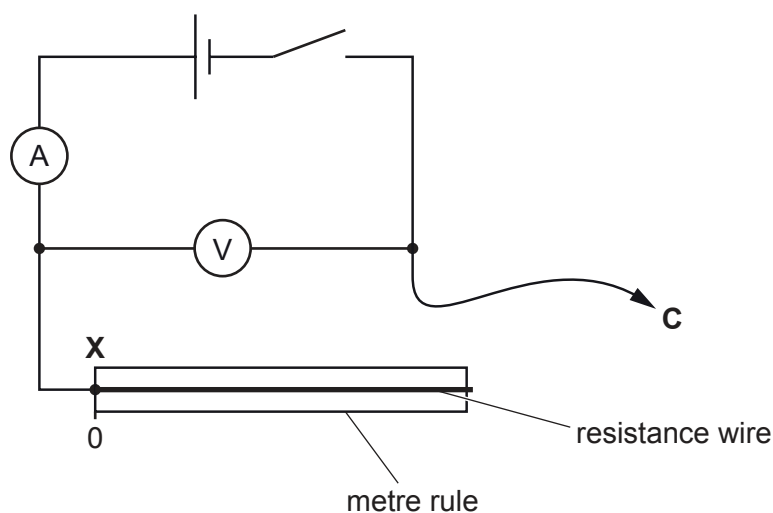

Fig. 4.1
2. The circuit shown in Fig. 4.1 below must be set up for the candidates. The crocodile clip must **not** be connected to the resistance wire.